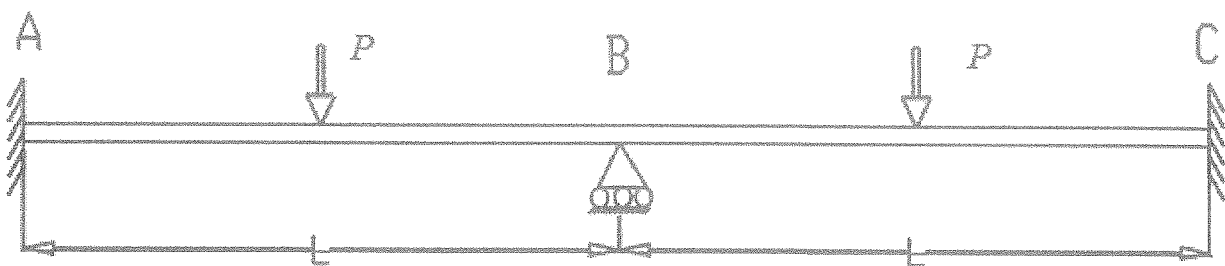

Fig. Q3
- b) Fig Q3 shows a continuous beam ABC, fixed at A and C and held on a roller support at B. Beam is loaded midway between span AB and BC by a point load P kN as shown in Fig. Q3. Using suitable finite element formulation to accommodate loading on the beam, calculate deformation of the beam under the applied load P . Assume bending stiffness of the beam, EI , and remain constant throughout the length.